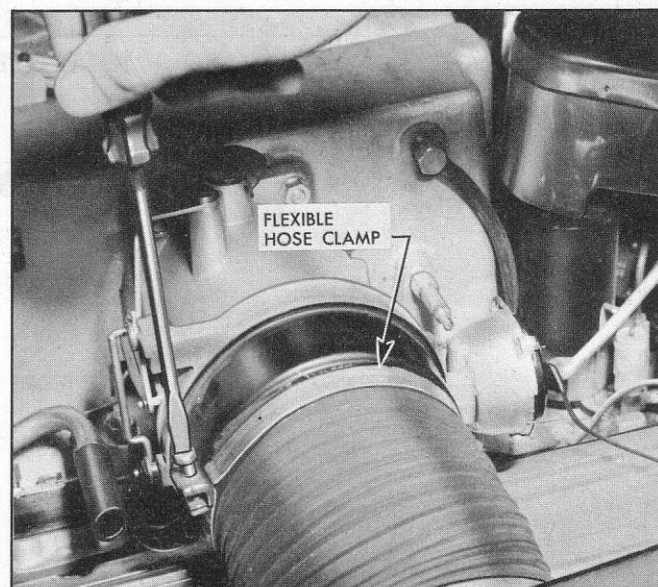
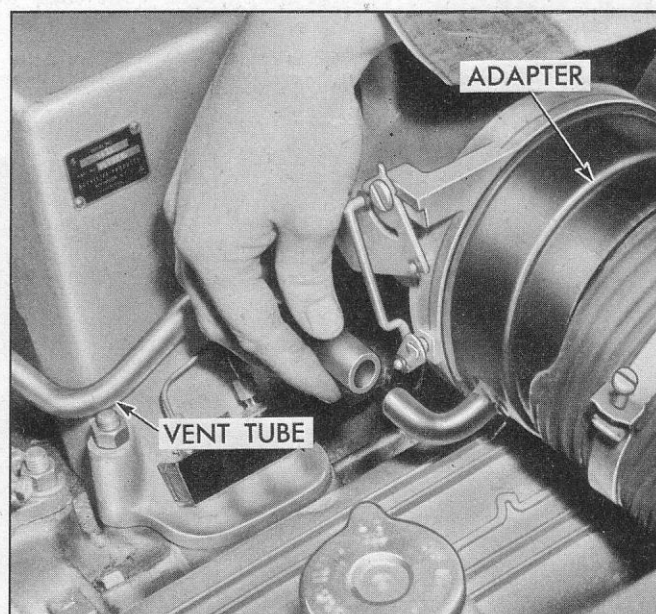

Fig. 29—Loosening Flexible Hose Clamp
Fig. 30—Disconnecting Main Diaphragm Vent Tube
2. Loosen clamp retaining air cleaner flexible hose to air meter (fig. 29), slide hose from adapter, leaving it attached to air cleaner. Disconnect main control diaphragm vent tube at adapter (fig. 30).